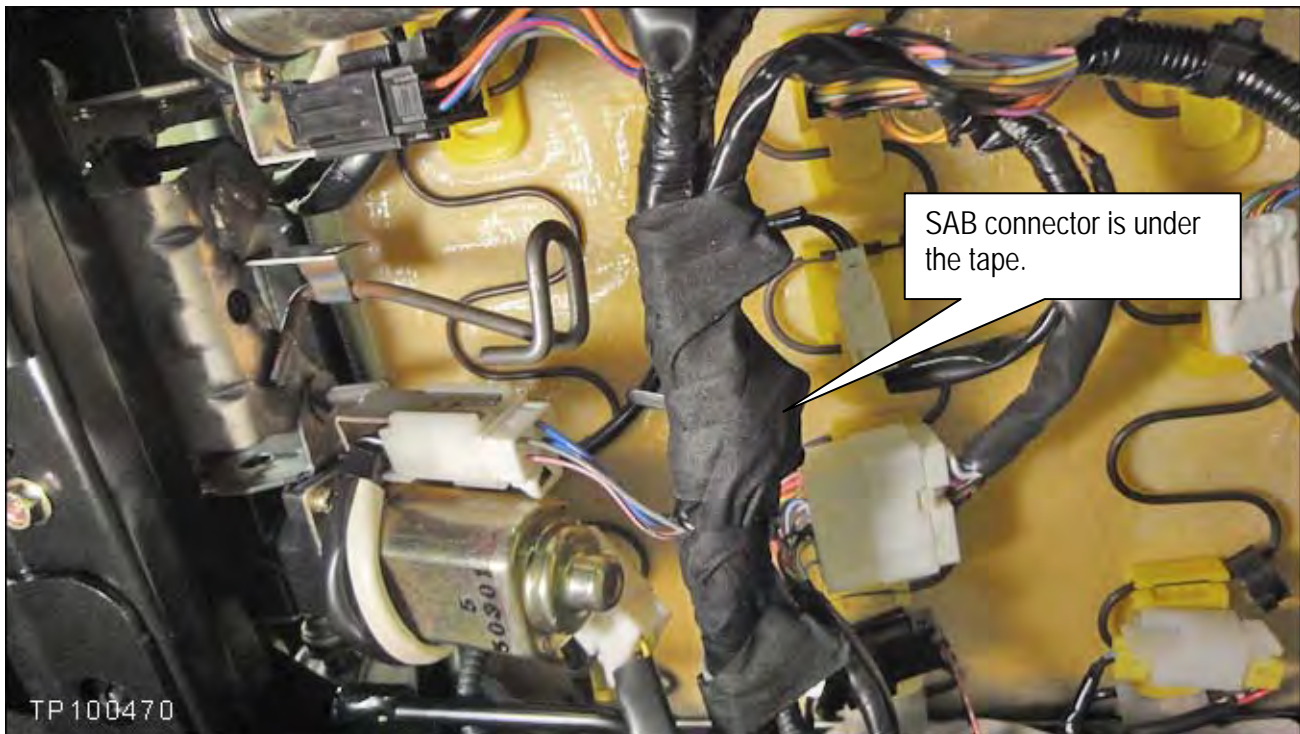

Figure 1b
1. Look under the seat and locate the SAB connector (taped to harness). See Figure 1b.